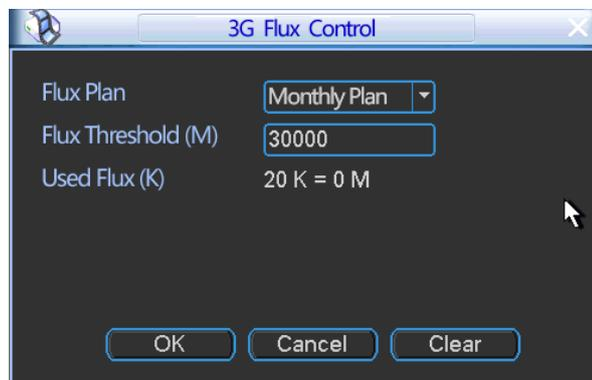

Figure 5-24
- 3G flow control: It is to show the 3G flow you used. See Figure 5-24.